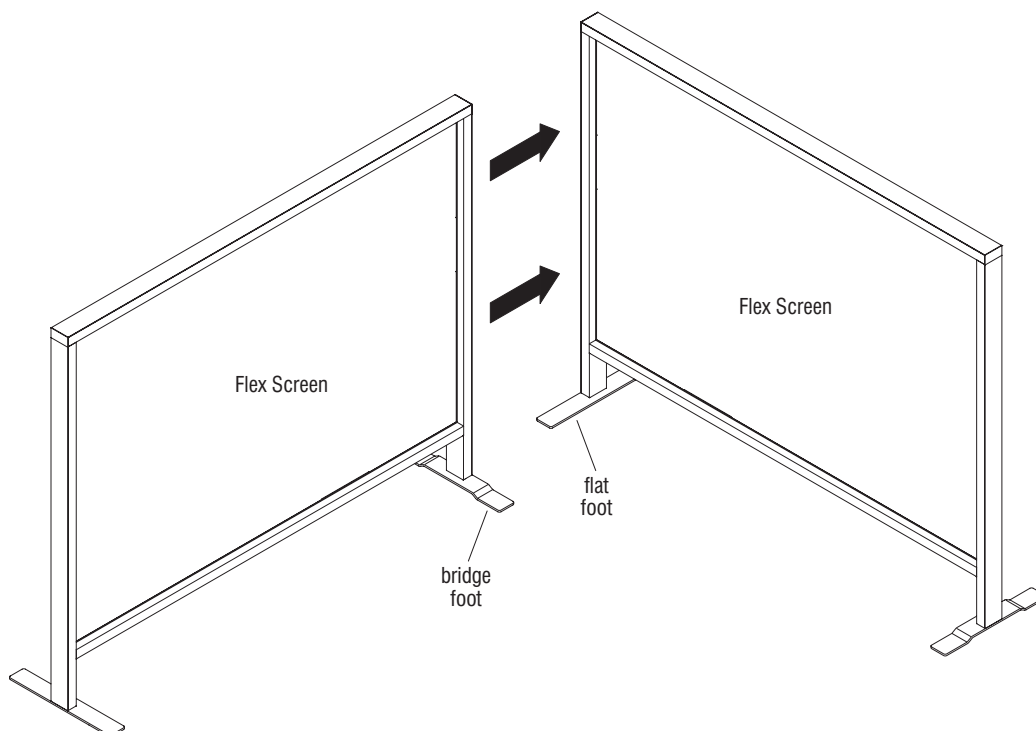

Figure 2 - Flex Screen Corner Intersection
1. Carefully lift and arrange the Flex Screens to be perpendicular to each other per the space-planning layout. Place the screen with the bridge or adjustable glide foot over the perpendicular screens flat foot or slide the screen with the flat foot under the bridge or adjustable glide foot of the perpendicular screen (Figure 2).